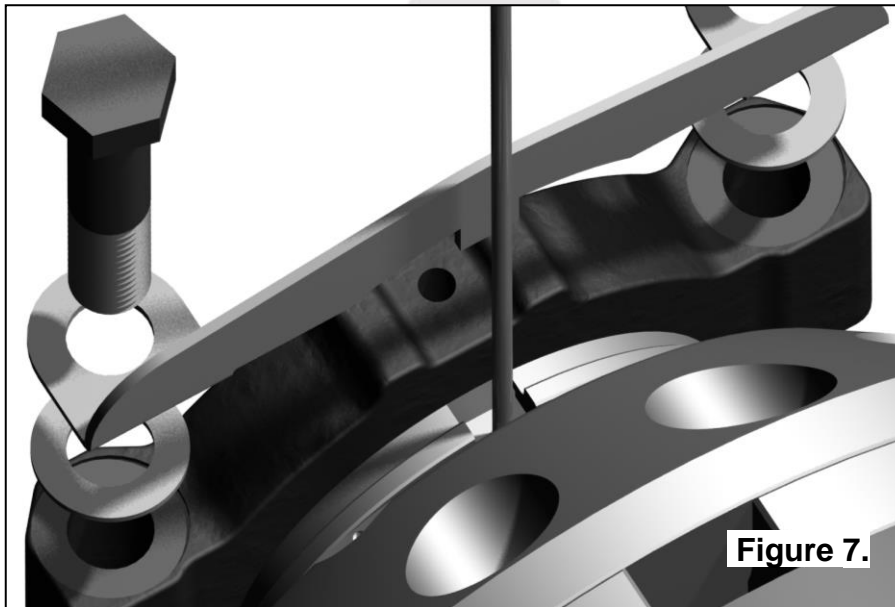

Figure 7.
- Rotate the seal housing so the slot and the tube are pointing straight out of the axle opening. Then install the supplied washers and seal housing bracket with the tab locating in the slot as shown in Figure 7.